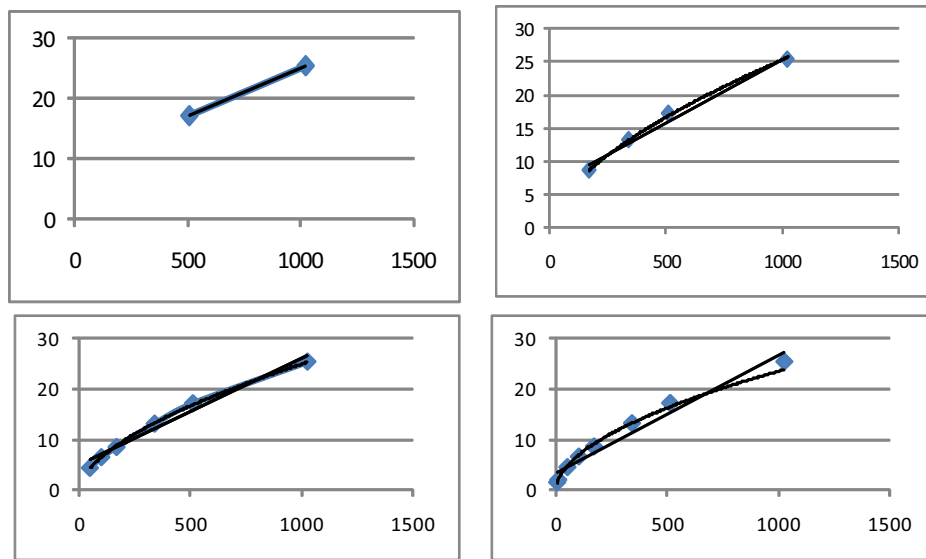

Figure 2-6: Regression result as a function of # of viscometer data points. (2, 4, 6, and 8 data points).
- b) Regression results for Bingham (straight line) and Power law (curved line) models are presented in Figure 2-6: